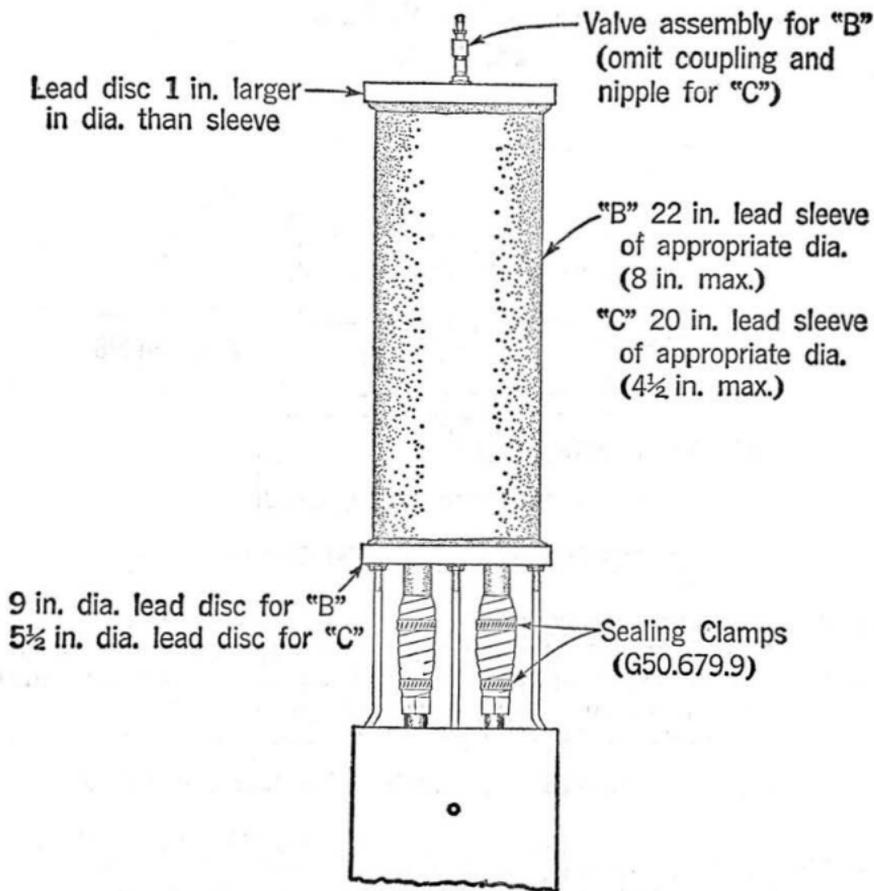

Fig. 9
6.01 Place the prepared sleeve over the splice, center it on the bottom disc and solder with a continuous seam around the base of the sleeve. Then pressure test the soldered and exposed wrapped joints in the usual manner. Fig. 9 illustrates a completed splice and gives the significant dimensions of the components used in the assembly.